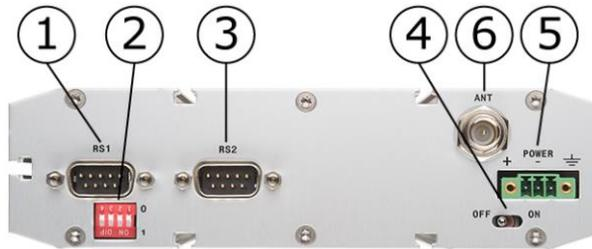

Figure 84: 3G-Router (bottom)
3. Use the switch [4] (Figure 84) to switch on the router (switch position ON).
11. Use the switch [4] (Figure 84) to shut off the router (switch position OFF).
14. Use the switch [4] (Figure 84) to switch on the router (switch position ON).